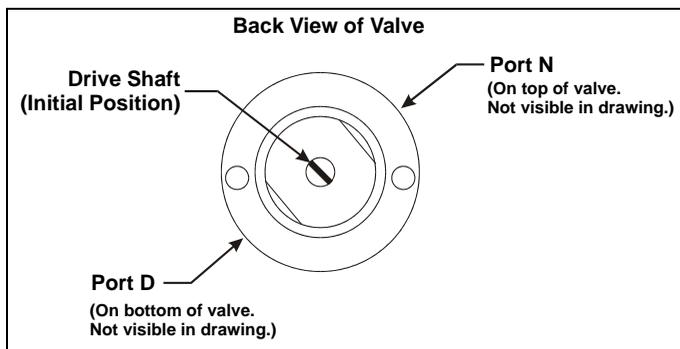

Figure 5-24. Prep Syringe Valve Drive Shaft Initial Position
4. Check the back of the new prep syringe valve (P/N 054243). The valve drive shaft should be perpendicular to valve ports N and D (see Figure 5-24).